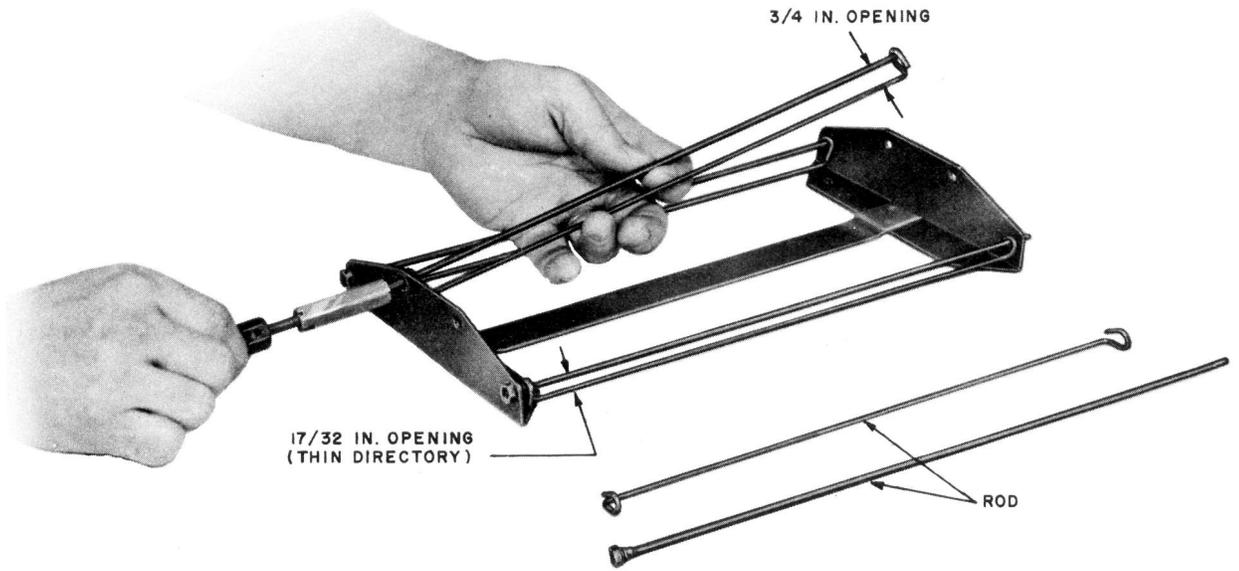

Fig. 10—Removing Rod
**3.04** Insert directory in fastener as illustrated in Fig. 10, 11, and 12.